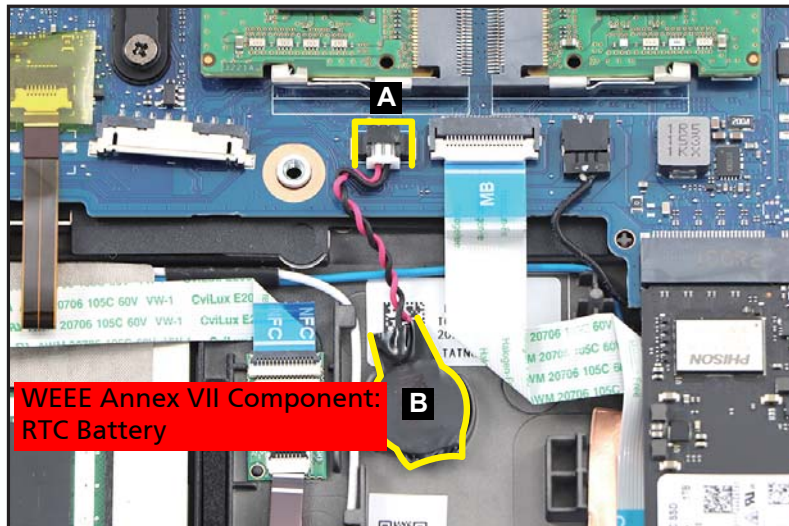

Figure 1-12. RTC Battery Removal
1. Disconnect the RTC battery cable from the mainboard connector (A) (Figure 1-12).
2. Using plastic tweezers, carefully pry to detach the adhesive tape underneath the RTC battery (B). Then remove the RTC battery (Figure 1-12).